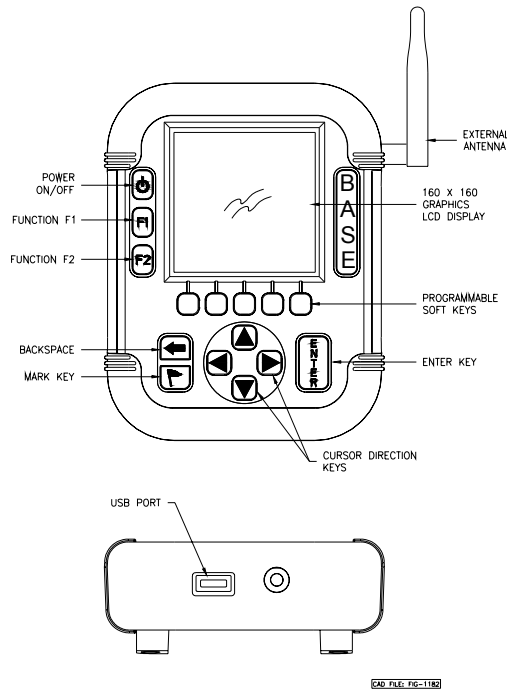

Figure 2. IRespond Base Station
2.1 Base Station Description. The base station controls message traffic flow between the PC and the Remote units. Note that the base station is a modified version of the Remote. A Universal Serial Bus (USB) interface and a different software package are the major differences between the base station and Remote physically. The Liquid Crystal Display (LCD) display and keypad are used for diagnostic test and status display on the base station. Also the base station features an external antenna. Figure 2 illustrates the features of the base station.